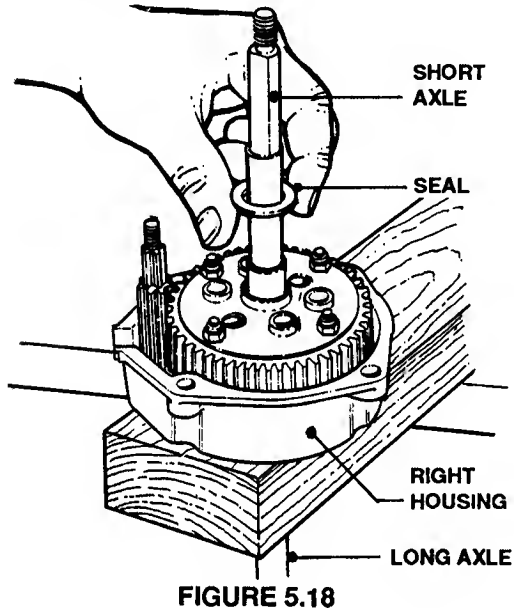

FIGURE 5.18
9. Grease Axles and guide Long Axis through Seal in Right Housing with Seal Driver. See Figure 5.18.